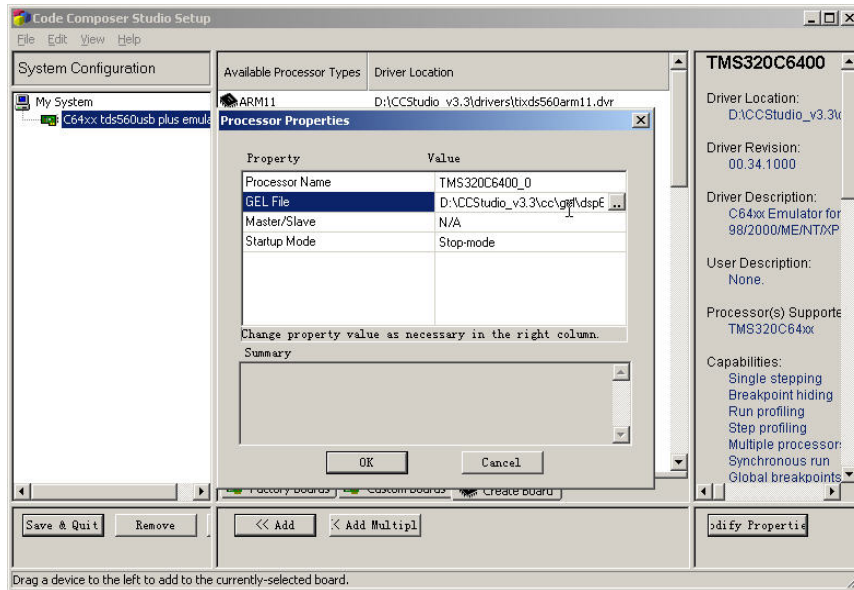

Figure C-7
8. The “Processor Properties” window will popup.(Figure C-7). Click on the “...” button to see a list of gel files. Select the gel file that matches your target board. (For some target board, if you don’t select a gel file, it may cause error while loading a program to CCS.) Then Click on “OK”.